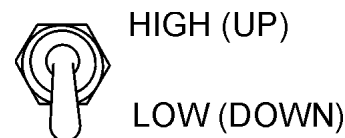

Figure 52. Engine Speed Switch (low)
10. If the generator is equipped with a Microprocessor Engine Control unit (MPEC), set engine speed switch to 'Low' (Figure 52).